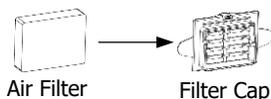

Fig. 18-4
- (1) Open the air filter cap to remove the air filter. Attach the air filter to the filter cap, as shown in Fig. 18-4.